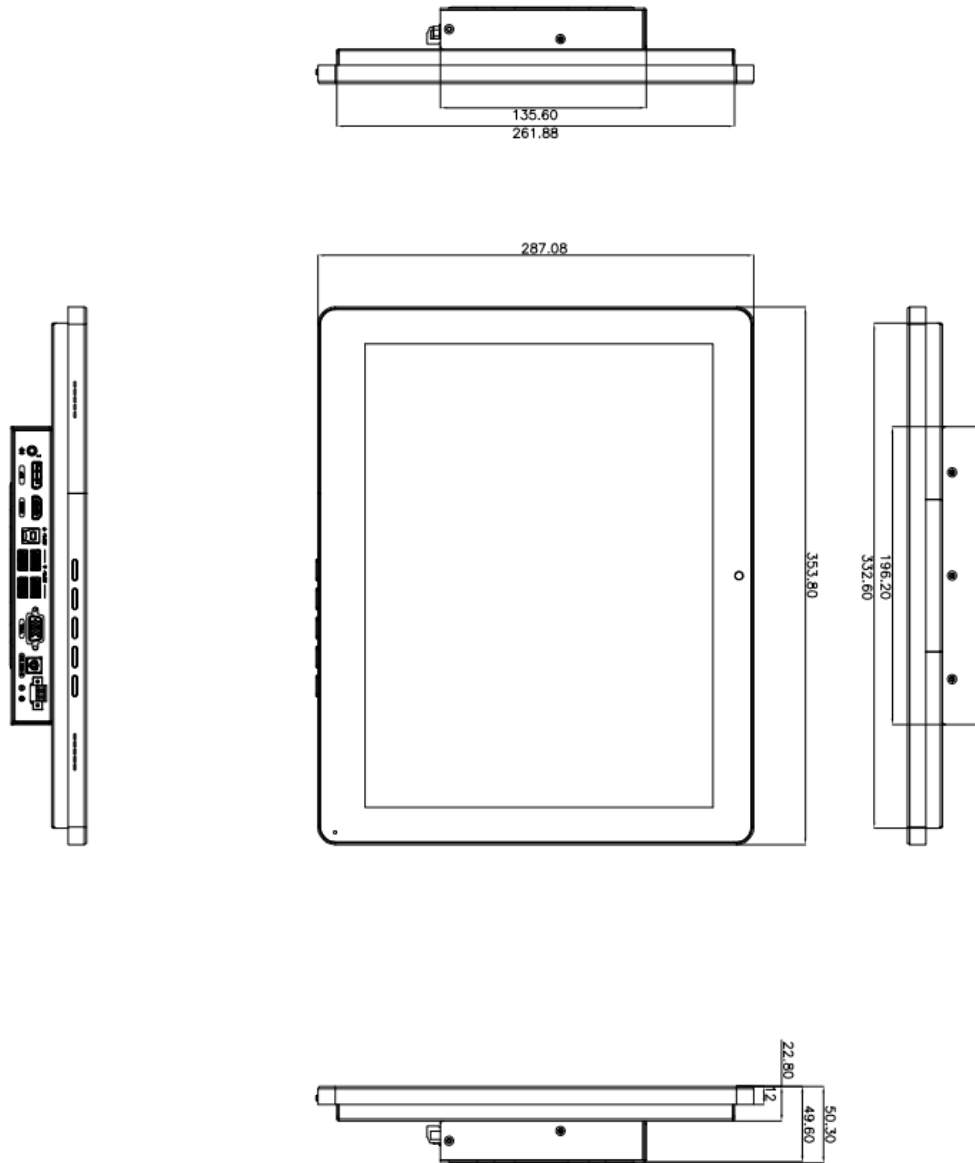

Figure 1-13 :DM2-150E(L) Physical Dimensions (Unit: mm)
1.9.7 DM2-150E(L) Physical Dimensions
The physical dimensions of the DM2-150E(L) are shown in the **Figure 1-13**.